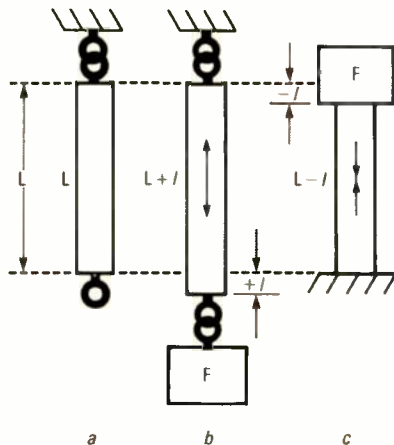
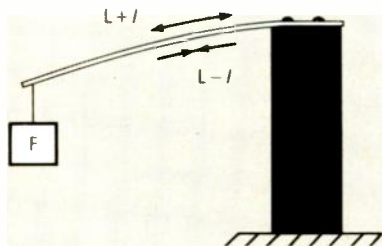

FIG. 2—IF A STEEL BAR (a) is loaded, its length will change. Depending on the placement of the load, the bar will either expand (b) or contract (c).
FIG. 3—WHEN FORCE IS APPLIED to the free end of the arm, the upper surface will expand and the bottom surface will contract.
FIG. 3—MAKING A DELTA-TIME MEASUREMENT shows that the difference between a tracking fix and a head-switch signal has to be 352  $\mu$ s; factory specifications call for a 400  $\mu$ s delay.
**(6) Delta time:** Time measurements fall into two categories: those that are part of one signal, and those involving the time difference between two signals. An example of time within one signal would be the duty cycle of a switching power supply, where the "on-time" compared to the "off-time" determines the power delivered to the load. The time delay between two signals is important in many VCR servo adjustments. See Fig. 3. Either of those applications uses a point on the waveform as a reference for a delta-time measurement.
**(7) Reciprocal time measurements:** You can determine the approximate frequency of a signal by measuring the time for a single cycle and then inverting the time measurement mathematically. You can use that method to determine the time constant of circuits responsible for ring-
As an example, Fig. 2 shows a steel bar subjected to a force in the form of a weight. In Fig. 2-a the bar is unloaded and has a length of  $L$ . In Fig. 2-b, the bar is anchored at the top, and the weight is attached to the bottom. In that case, the resulting deformation will appear as an increase in length. In Fig. 2-c, the weight is placed on top of the bar. That will result in a decrease in length. Note that no matter how the bar is loaded, it will return to its original length when the weight is removed, provided that the applied force was not so large as to cause the bar to permanently stretch or break. The change in length resulting from an applied force is known as strain. For metallic solids like steel or aluminum, the maximum allowable strain before deformation is in the range of a few thousandths of an inch.
The spring element is the foundation of the strain-gage transducer. It is an elastic solid (usually metallic) designed to linearly translate an applied force into an equivalent strain. Its size and shape depend on the magnitude and type of force that the transducer is to sense. A spring element could be as simple as the steel bar in Fig. 2, but a design of that type provides only one direction of strain in response to an applied force. If the applied force can produce two equal strains that are opposite in direction, the resulting transducer will be more accurate. That is often done by applying a force to the spring element in a way that will make it bend.
Figure 3 shows one way that can be done. A rectangular steel bar is anchored at one end in a cantilever configuration. The force is applied to the free end of the bar, perpendicular to the axis, rather than along the axis as in Fig. 2. As a result, the upper surface of the bar will stretch, and the bottom surface will compress. The surface strain will vary along the bar, from a maximum near the end that is anchored, to zero at the other end. But at any given position along the bar, the strain of the
The purpose of the strain gage is to convert the strain of the spring element into an equivalent change in resistance. A strain gage is just a metallic conductor that is bonded to the spring element, stretching and compressing in the same way as the spring element. We know from basic electricity that the resistance of a conductor depends on its length. And, we know that if we place it in tension its length will increase as the steel bar did in Fig. 2. Since resistance is proportional to length, that stretching will result in an increase in resistance. If we turn that around and put the conductor into compression, its resistance will decrease.